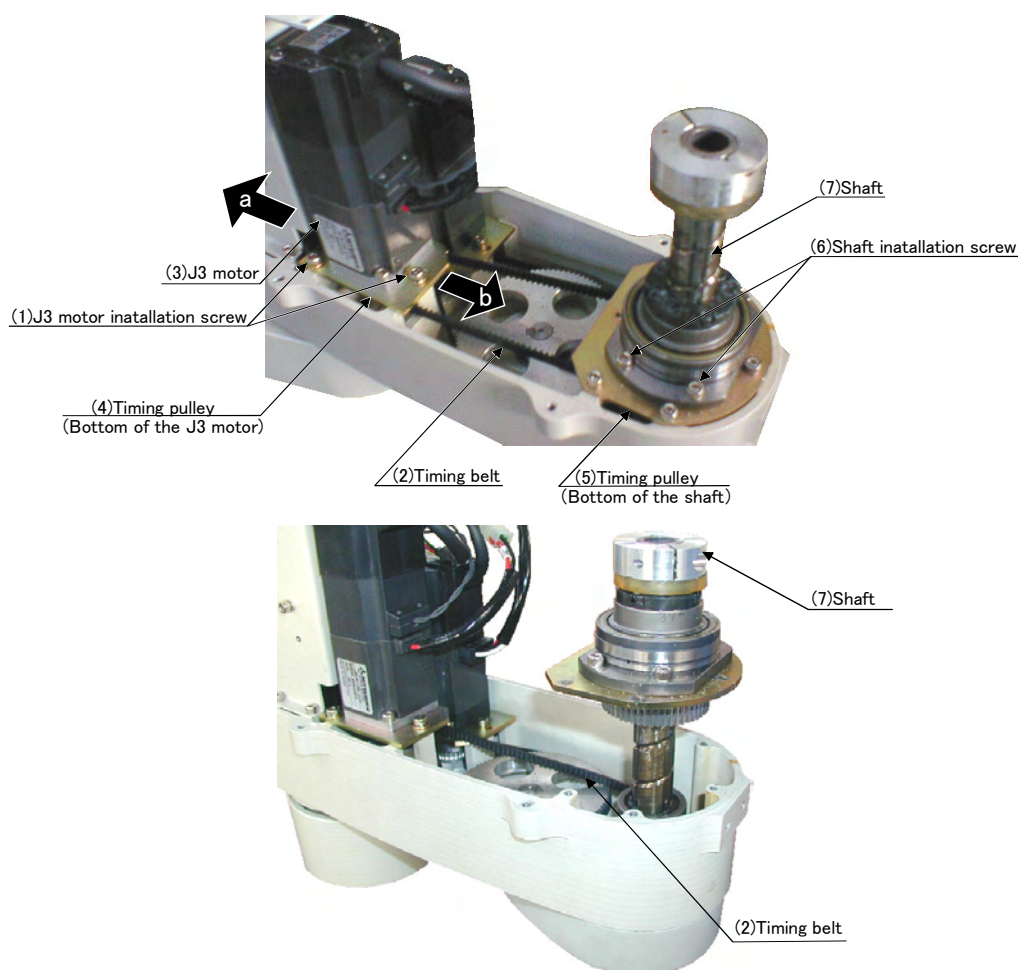

Fig.5-4 : Inspection, maintenance and replacement of J3-axis timing belt
- 1) Fig. 5-4 shows the methods for inspecting, adjusting and replacing the timing belt.
- 4) Be careful not to let the timing pulley (4) on the J3 axis motor move while the belt is being changed.
- 5) If the pulley (4) and (5) position relation deviates, the position could deviate.
- 6) Loosen the J3 motor installation screws (1) to lift the J3 motor (3) upward and remove the timing belt (2) from the timing pulley (4).
- 7) Loosen the shaft installation screws (6) to lift the shaft upward and remove the timing belt (2) by lifting it from the bottom spline section. (Refer to Fig. 5-4.)
- 8) Install a new timing belt on the timing pulleys (4) and (5) in the reverse order of the procedure described in steps 6) and 7) above.
- 9) With the J3 axis touching the upper mechanical stopper, hook the timing belt (2) around the timing pulleys (4) and (5).
- 10) Perform tension adjustment referring to steps 3) to 6) in " ■ Adjusting the J3 axis timing belt" and Page 51, "(4) Timing belt tension".